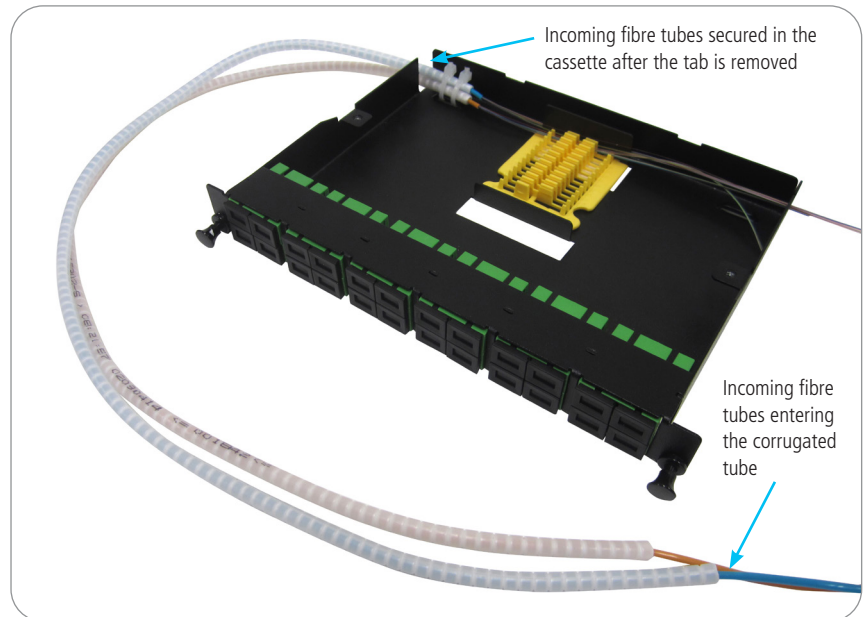

Figure 7.
- Fasten the tubes to the splice cassette as shown in **Figure 7** using 2 cable ties.